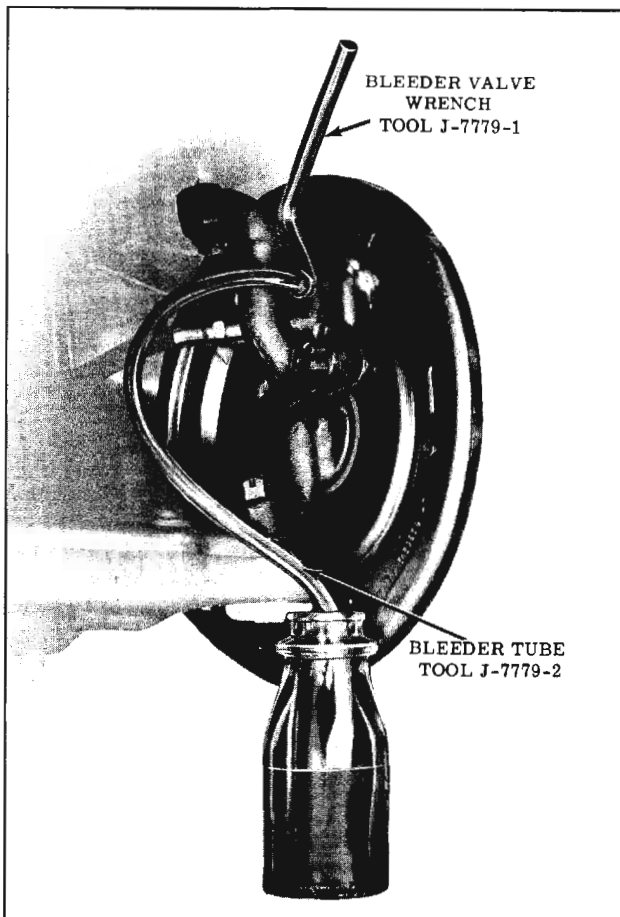

Fig. 7-114 Bleeding Brakes
3. Attach Bleeder Tube J-7779-2 to wheel cylinder bleeder valve. (Fig. 7-114)